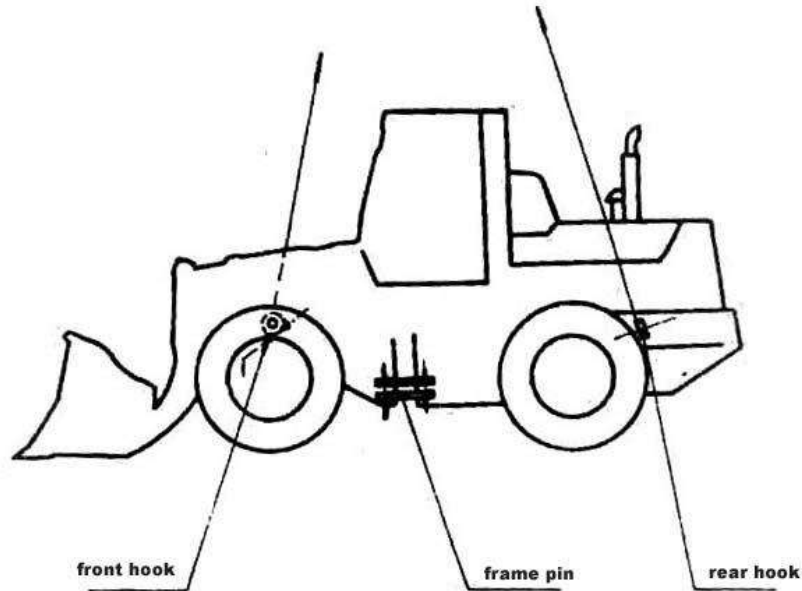

Fig.9-1 Hoisting schematic figure of loader
2. While using rope or steel wire rope to lift through front and back rings, the rope should be set on the position of center of gravity to avoid the rope been damaged or relative part of loader been scraped. As is shown in fig.9-1.